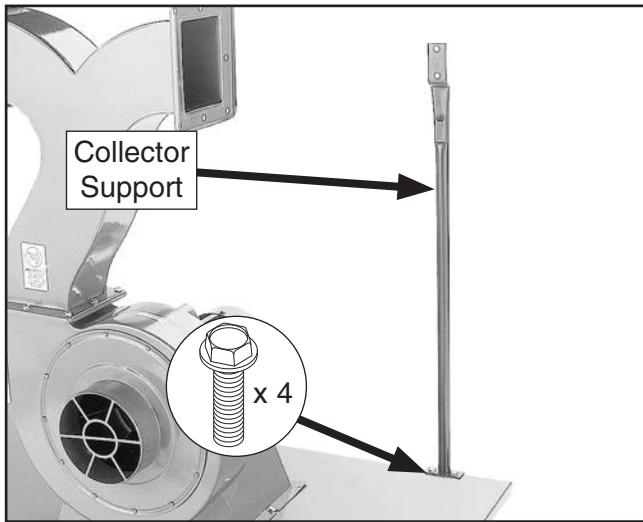

Figure 15. Collector support installed.
- Align each of the collector supports with the mounting holes on the base, as shown in **Figure 15**, then secure them in place with (4) $5/16$ "-18 x $1/2$ " flange bolts.